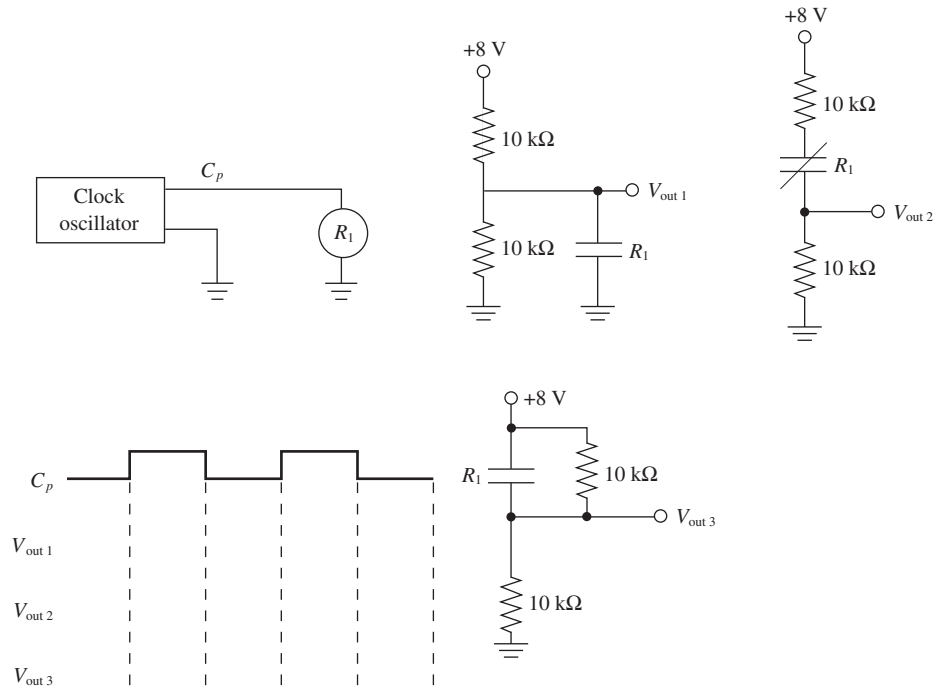

Figure P2-5
- C** 2-5. Draw the timing diagram for V_{out1} , V_{out2} , and V_{out3} in Figure P2-5.